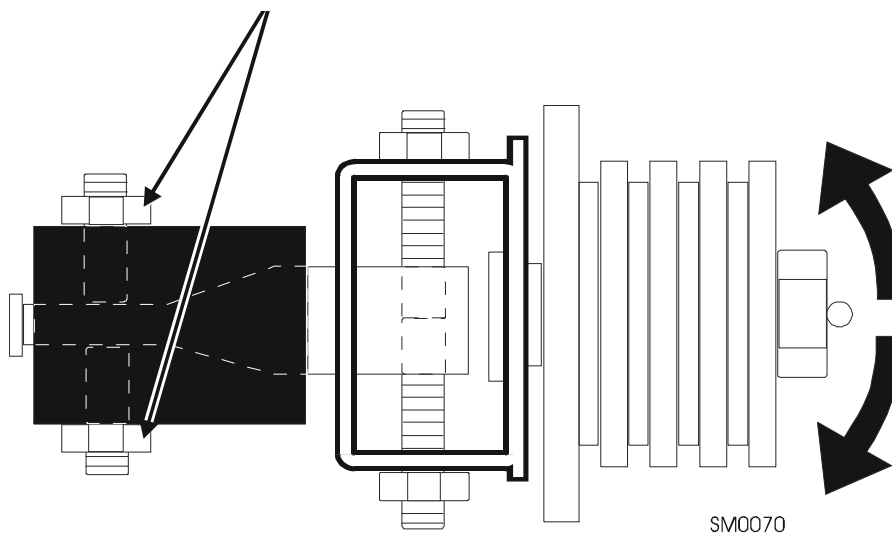

FIG. 6-12
6. The two measurements should be the same. If they are not, loosen one side set screw of the guide assembly and adjust the blade guide in the vertical plane using the screws shown in Figure 6-12.
See figure 6-12.